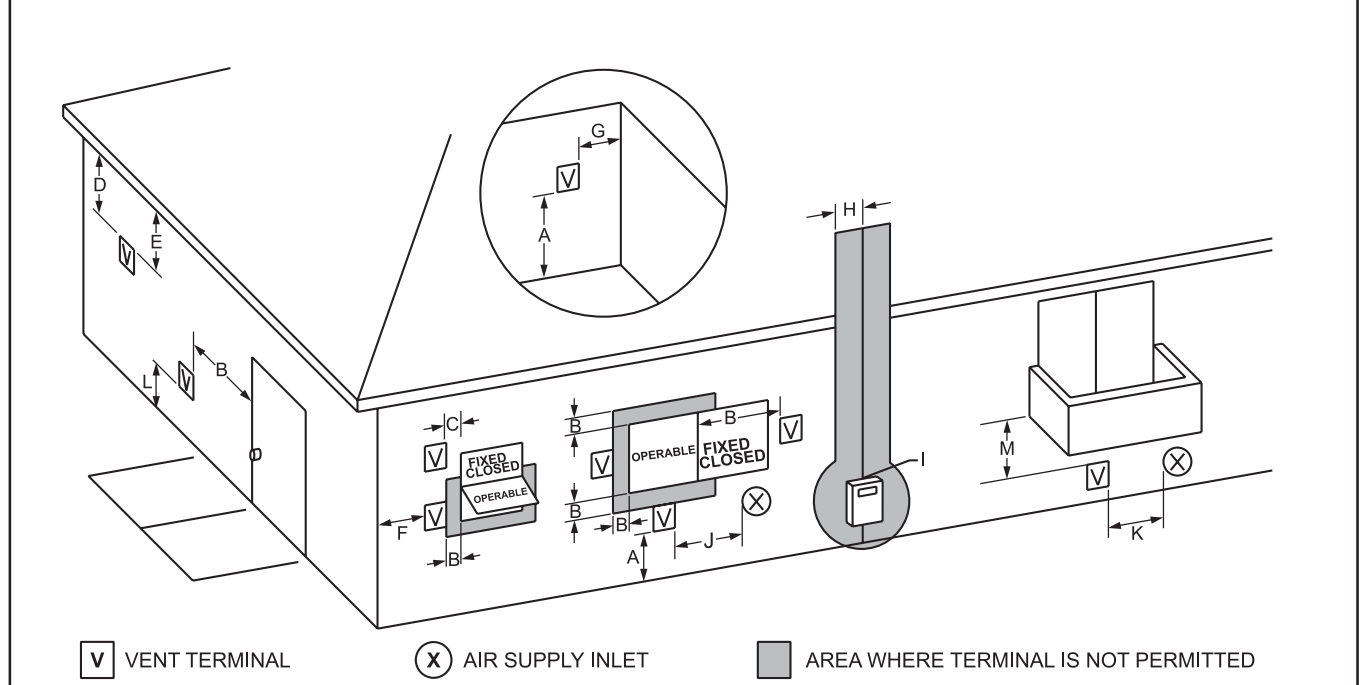

Figure 4. Combustion Air and Vent Through Side Wall.
1. Figure 4 shows the requirements for mechanical vent terminal clearances for the U.S. and Canada.
4. If the Brute Deluxe is side-wall vented to the same wall, locate the vent terminal at least 3 feet (0.9m) horizontally from the combustion air terminal, and locate the vent terminal at least 1 foot (0.3m) above the combustion air terminal (see Figure 4).